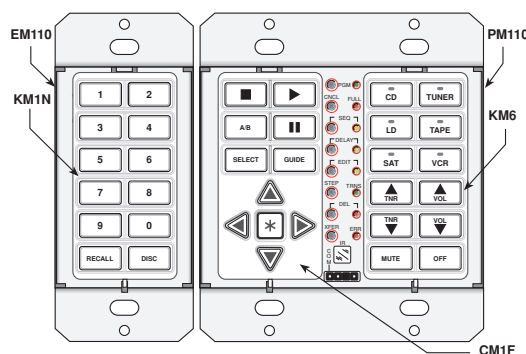
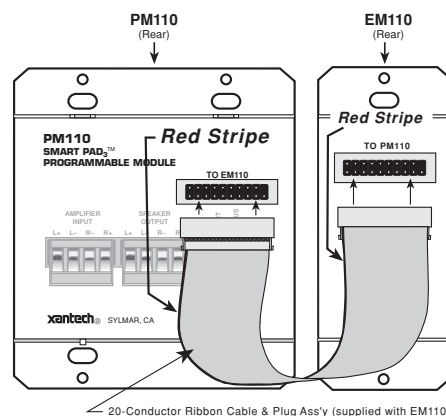

Fig. 9 3-Gang Module & Button Assignments
Fig. 10 3-Gang EM110 to PM110 Connections
As with the previous configurations, the next step is to determine the **SmartPad₃ modules** and keypad **buttons** needed to perform this job. Using the client specification and similar procedures to those on pages 7 and 8, we have come up with the module and button assignments as shown in **Fig. 9**.
1. When you have completed the assembly of the buttons and the modules and have installed them into the PM110 & EM110 as shown in **Fig. 9**, connect them together with the ribbon cable as shown in **Fig. 10**. Locate **red stripe** side of cable as shown.